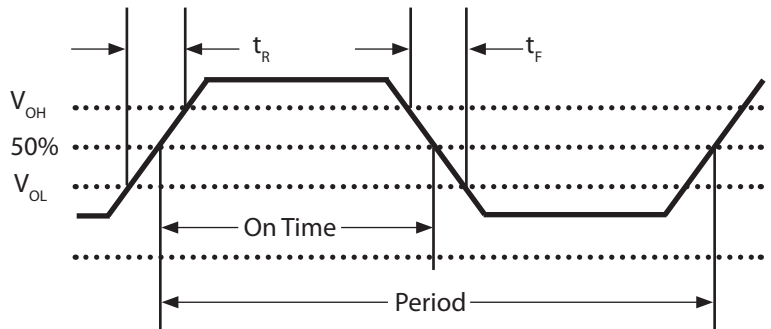

Fig 2: Waveform
- 5] Duty Cycle is measured as On Time/Period, see Fig 2.
5] Duty Cycle is measured as On Time/Period, see Fig 2.